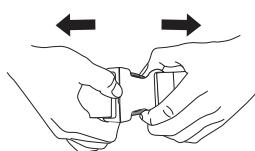

fig.13
- Release the buckle of the waist strap (See fig.13).